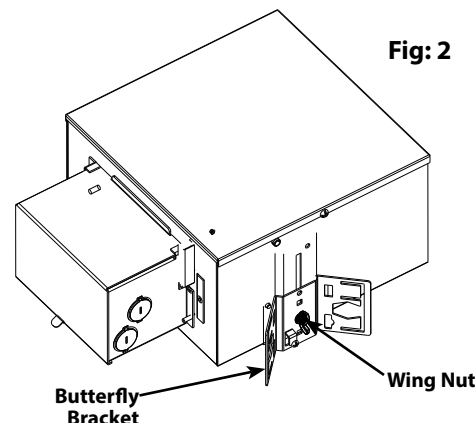

Fig: 2
4. The fixture can be adjusted to different heights above the **Ceiling** surface. For height adjustment, loosen the **Wing Nut** and slide the **Butterfly Bracket**. If necessary remove the **Wing Nut** and insert in screw in different hole provided on the **Butterfly Bracket**. (Fig: 2)